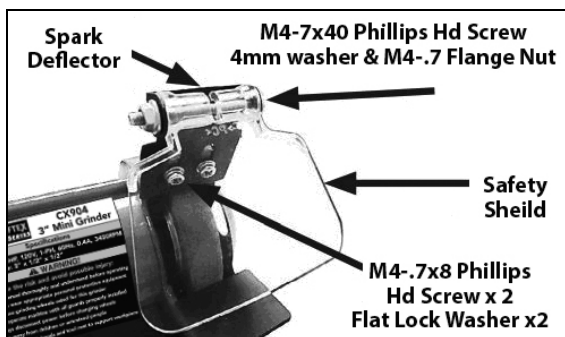

Figure 6
1. Connect safety shield to spark deflector using (1) M4-.7 x 40 Phillips head screws and (1) 4mm flat washer, securing it in place with (1) flange nut as shown in figure 6 below.
2. Connect the safety shield assembly to right side of grinder using (2) M4-.7 x 8 Phillips head screws with captive flat lock washers as seen in figure 6 below.